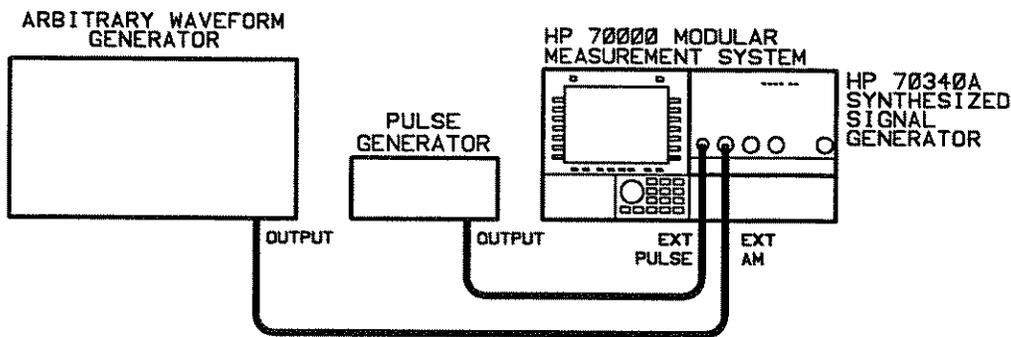

Figure 3-14. Antenna Scan Equipment Setup
1. Connect the equipment as shown in Figure 3-14:
To program the signal generator to generate the antenna scan pattern explained above, connect the equipment as shown in Figure 3-14. Set the